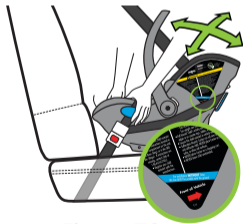

Figure 74
- Grip Carrier near blue UAS/Lap Belt Guides and pull Carrier side-to-side and front-to-back to check for secure installation, as shown in **Figure 74**.
- Verify that the blue Recline Reference Line on side of seat is parallel with ground, as shown in **Figure 74**. If not, unbuckle the seat belt and go back to **Step 6**.